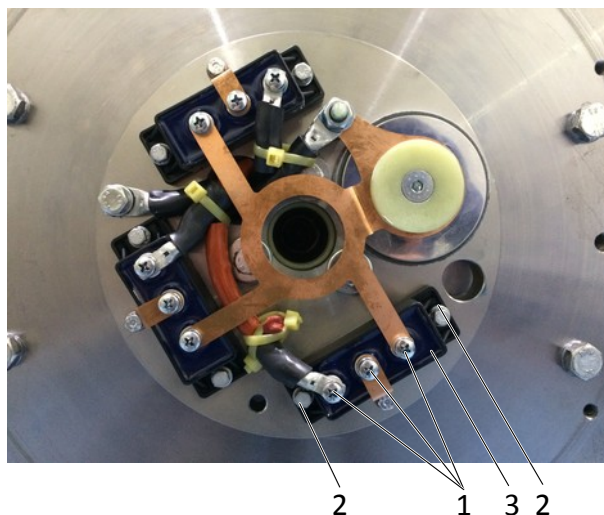

Figure 29- Rotating rectifier
- ➔ Access the rectifier bridge (see *Figure 29-*);